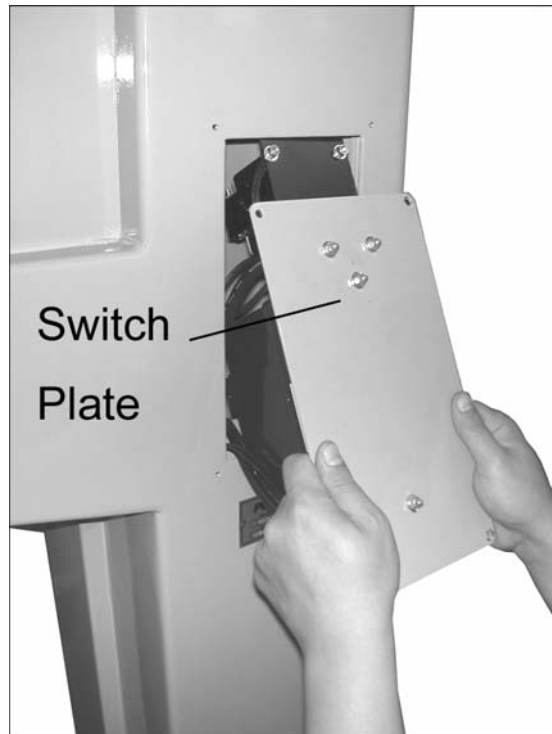

Figure 8
1. Remove the four Phillips head screws on the switch plate (Figure 8) and tilt the switch plate down. Then remove the cover of the switch box.